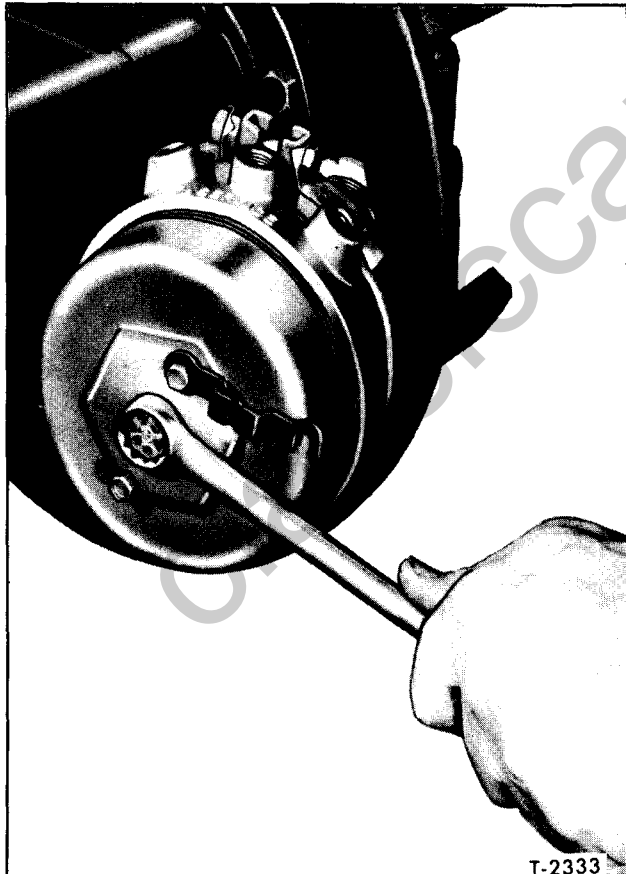

Figure 39—Compressing "Fail-Safe" Power Spring
10. With air in outer chambers, turn release bolt at each chamber (if "Fail-Safe") counterclockwise as far as it will go (approximately 18 turns - see fig. 39). Brakes are now in operating condition, either for service brakes or parking.
In case of complete pressure loss, and pressure in the protected tank is depleted, brakes will remain applied until air pressure is restored. If necessary to move the vehicle before air pressure can be restored, brakes can be released by turning the release bolts clockwise as far as possible (approximately 18 turns) to compress the springs, as shown in figure 39. (This must be done at all "Fail-Safe" chambers at each wheel.) After air pressure has been restored, service brakes will be operative immediately; however, the parking brake will remain inoperative until the spring release bolts are backed out (counterclockwise) as
1. With air pressure in parking brake chamber (brake released), loosen release bolt spring lock and swing to one side; then turn release bolt clockwise as far as it will go (approx. 18 turns) to compress the power spring. Refer to figure 39.
7. Turn release bolt counterclockwise as far as possible (approx. 18 turns) to release spring (fig. 39). This will leave the parking brake chamber in operating condition.